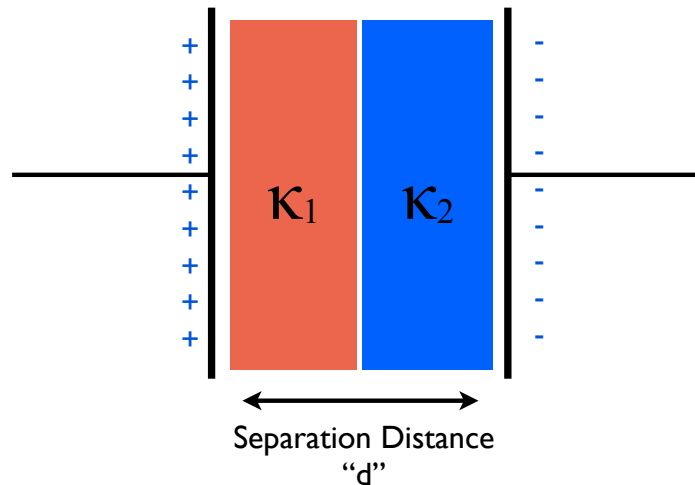

Figure 4: Parallel plate capacitor filled with two different dielectrics: κ_1, κ_2 .
3. Devise (and perform) an experimental procedure to verify that a parallel plate capacitor filled with two different dielectrics (nylon and vinyl) placed in parallel, side by side (see Fig. 4), behaves as two separate capacitors in series. Record some values of the capacitance. Remember to measure the thickness of the nylon and vinyl sheets. *Hint: you may want to have the plates as close as possible.*
4. Show that the capacitance for the setup in Figure 4 is given by